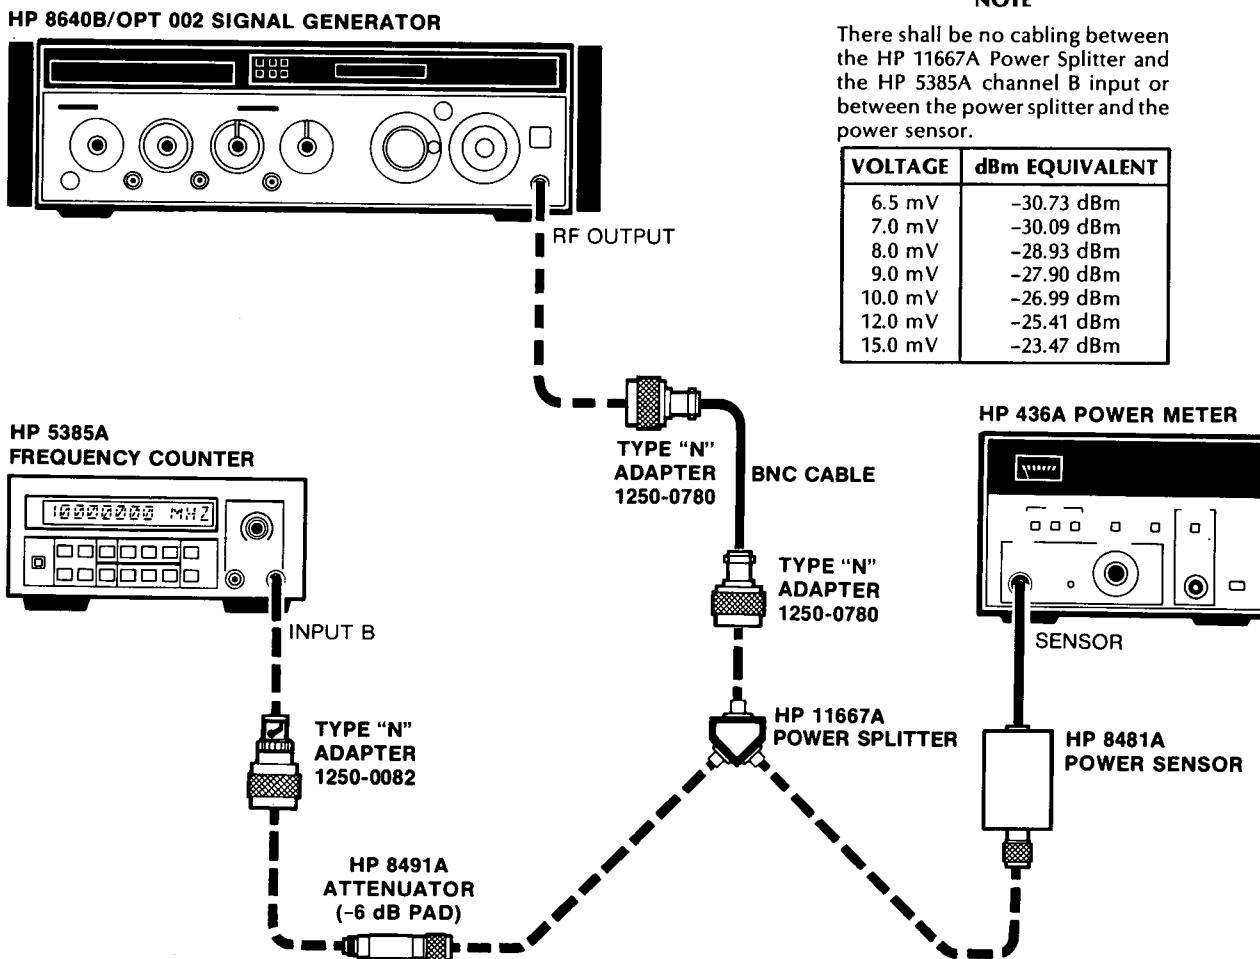

Figure 4-4. Channel B Frequency Response and Sensitivity Test Setup for HP 5385A
1. Connect the signal generator and the power meter to the HP 5385A channel B input as shown in *Figure 4-4*.